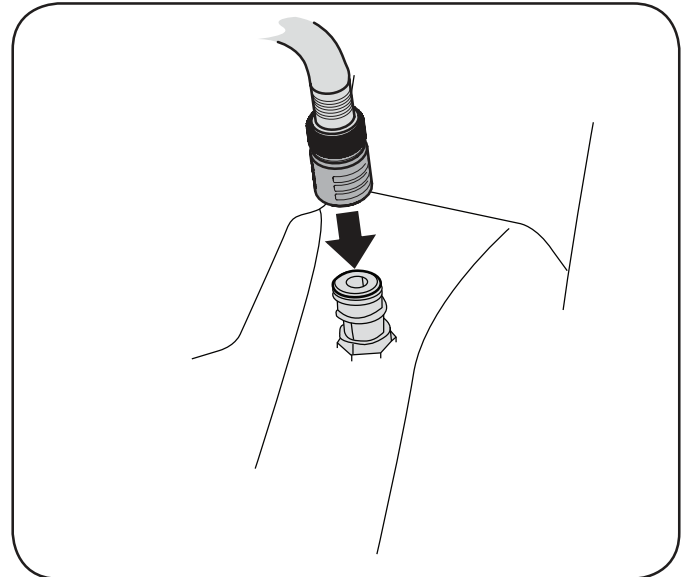

Figure 13
3. Attach the hose coupler to the water port on your deck's surface (Figure 13).
2. Remove the bolt and the blade bell support which hold the blade and the blade adapter to the engine crankshaft (Figure 13).
5. Lubricate the engine crankshaft and the inner surface of the blade adapter with light oil. Slide the blade adapter onto the engine crankshaft. Place the blade on the adapter such that the side of the blade marked "Bottom" (or with part number) faces the ground when the mower is in the operating position. Make sure that the blade is aligned and seated on the blade adapter flanges. See Figure 13 insert.